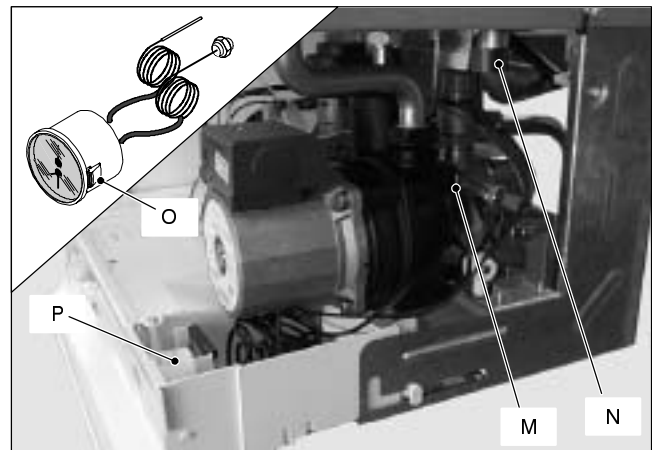

Fig. 56
- 2 Remove the fork M and the probe holder spring N (Fig. 56).